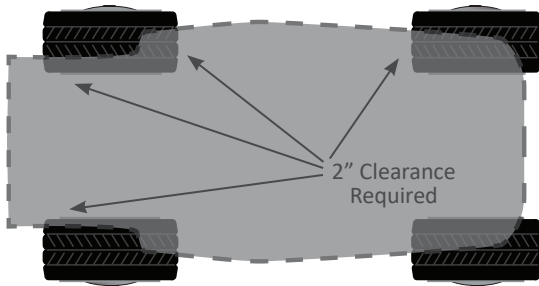

Figure 1
2. Drive onto DripDiaper, centering the machine, and use included scissors to notch DripDiaper edges for tire cutouts. (Ensure a minimum 2" clearance around all tires - Fig. 1)